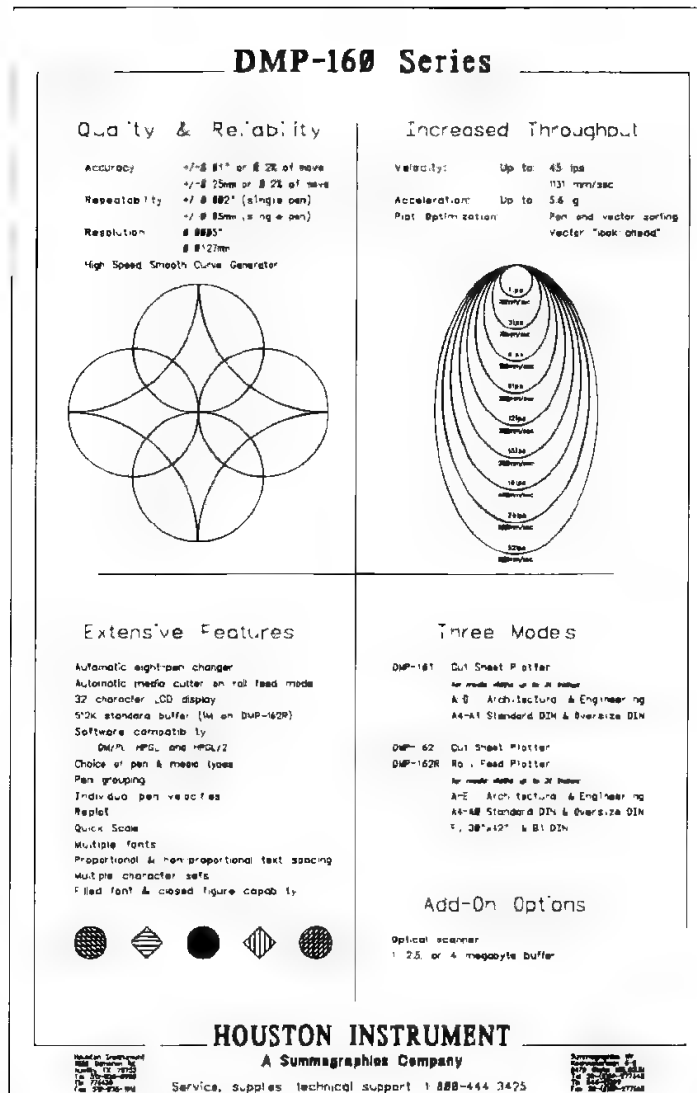

FIGURE 1-10. CUSTOMER CONFIDENCE TEST PLOT
- Press the control panel **MENU** key once to access the plotter menu system. Continue pressing and releasing the **MENU** key until **INTERNAL PLOTS** is displayed on the control panel. Press the left arrow or right arrow key until **CONFIDENCE** is displayed on the control panel. Press the **ENTER** key to start the customer confidence test plot. Refer to Figure 1-10. Successful completion indicates that the plotter is operational.